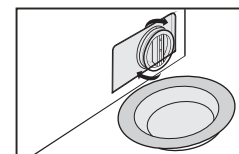

Fig 20
3.Reinstall each part back after sundries matters are removed (Fig 20).